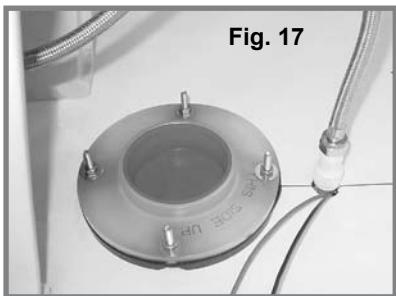

Fig. 17
STEP 16: With toilet close to floor flange, connect flexible water supply hose to the water line fitting (fig. 17).